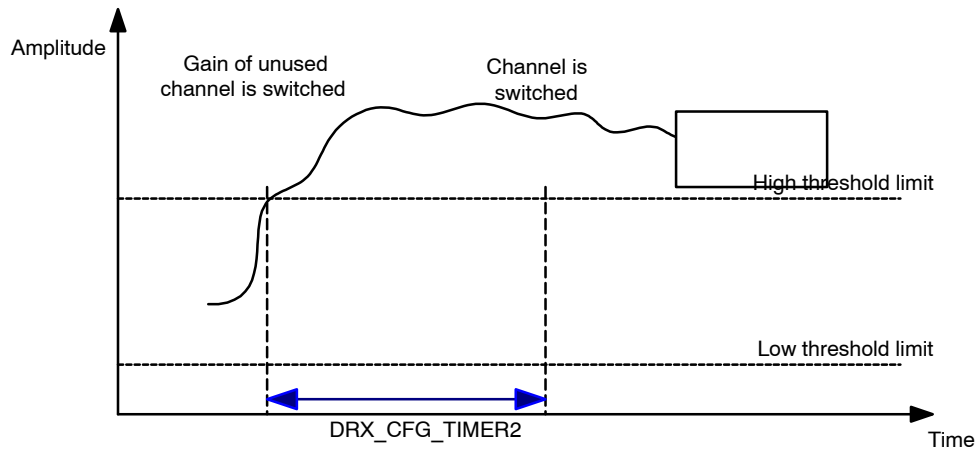

Figure 5. Channel is Switched
- If the timer T2 reaches IDRX_CFG_TIMER_2 and the amplitude is still above the high threshold limit, the IDRX block switches to the new channel. This is shown in Figure 5.